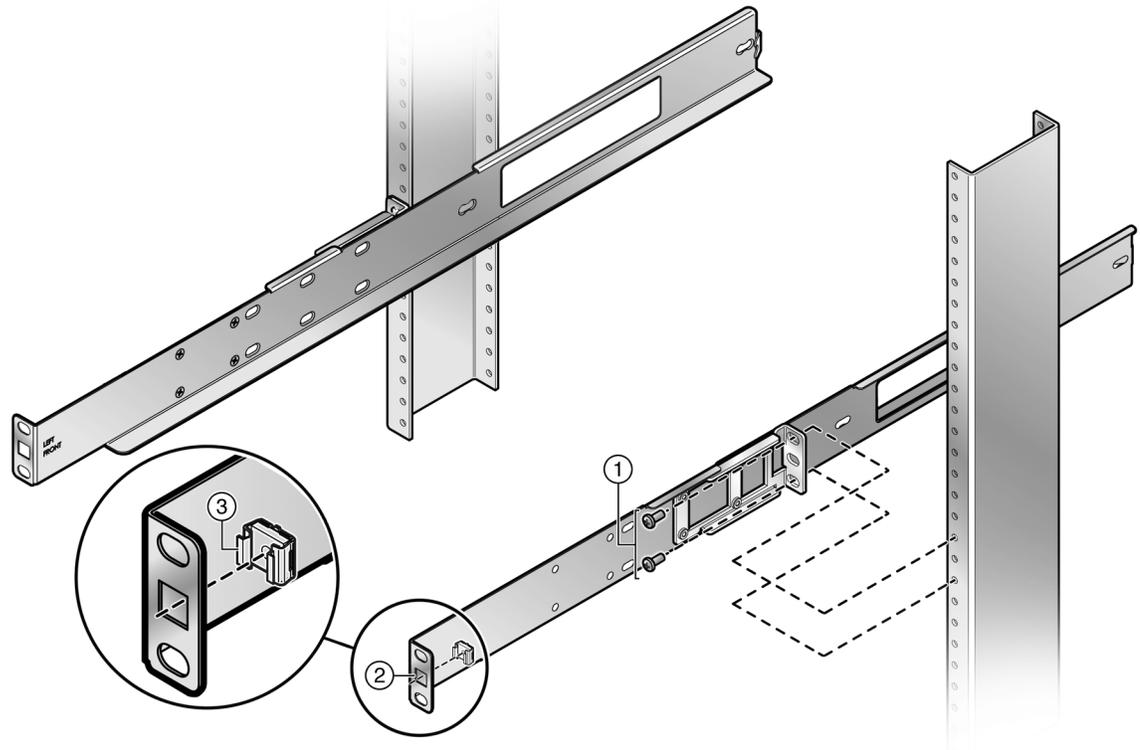

Figure 31: Securing Mid-Mount Rail Assembly
- Align the mid-bracket ear openings with the outer front flange rack post openings as shown in Figure 31: Securing Mid-Mount Rail Assembly on page 67.